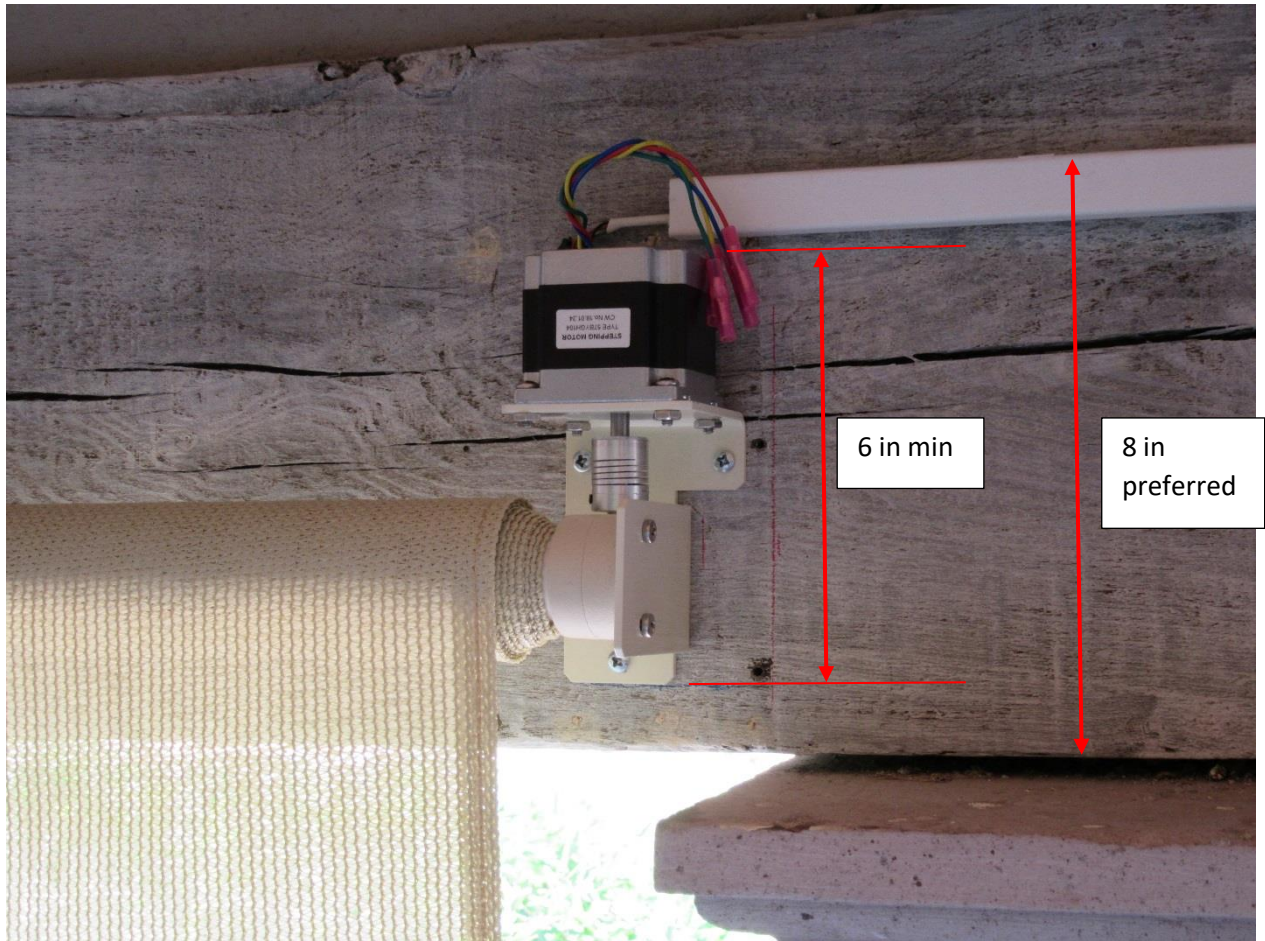

Figure 3 - Minimum and Preferred Vertical Clearances
- You need a vertical clearance of at least 6 inches to mount the motorized shade screen mechanism. 7 or 8 inches is better as it will allow for mounting low voltage cable conduit above the motors that will cover the motor cables. See Figure 3. You could just staple the cables but a much neater installation results from using the conduit.